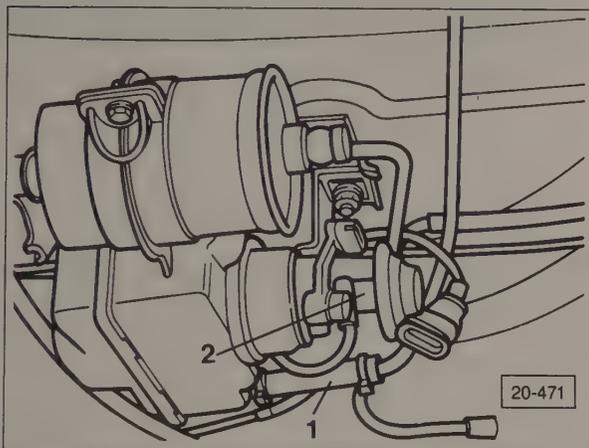

Fig. 4-13. Fuel pump and filter used with CIS and CIS-E. Pinch shut fuel supply line from transfer pump 1 and remove cap nut 2 to drain fuel.
3. Temporarily pinch shut the supply line that comes from the transfer pump to the fuel reservoir. See Fig. 4-13 or Fig. 4-14. Place a large container beneath the fuel reservoir for catching fuel.